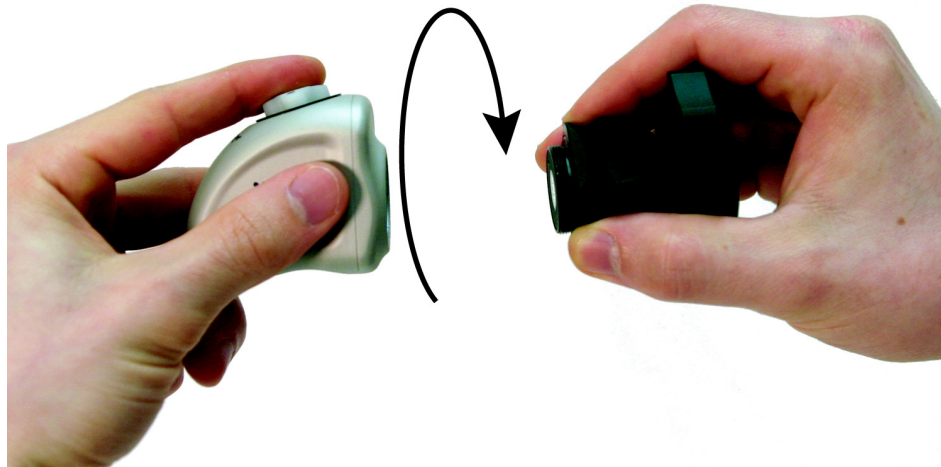

Figure 5: Attaching a coupler to the camera head
- Grasping the rear adapter, screw the coupler onto the camera head (clockwise) until it forms a tight seal (see Figure 5).